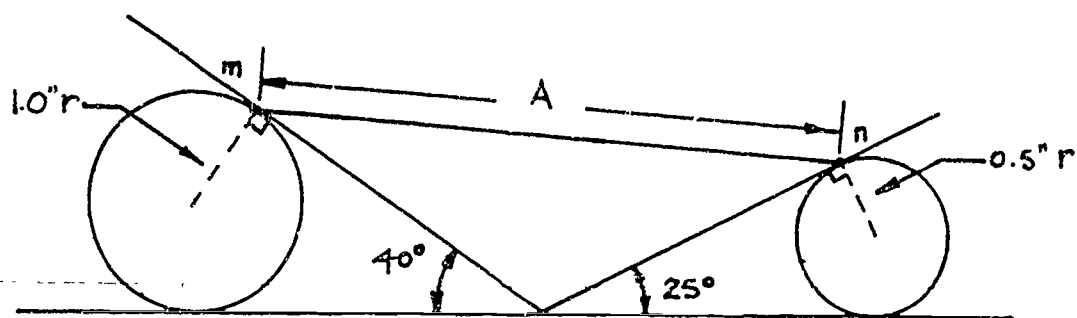

Figure 8: Find the error of A to the nearest thousandth.
2. You are given a layout to check a certain dimension for accuracy. Look at Figure 8. You measure dimension A, the distance between the points of tangency M and N, to be 4.234". How many thousandths of an inch is dimension A in error? (Hint: Solve for dimension A by trigonometric methods. Then compare the trig A to your measured A. The difference is the error.)